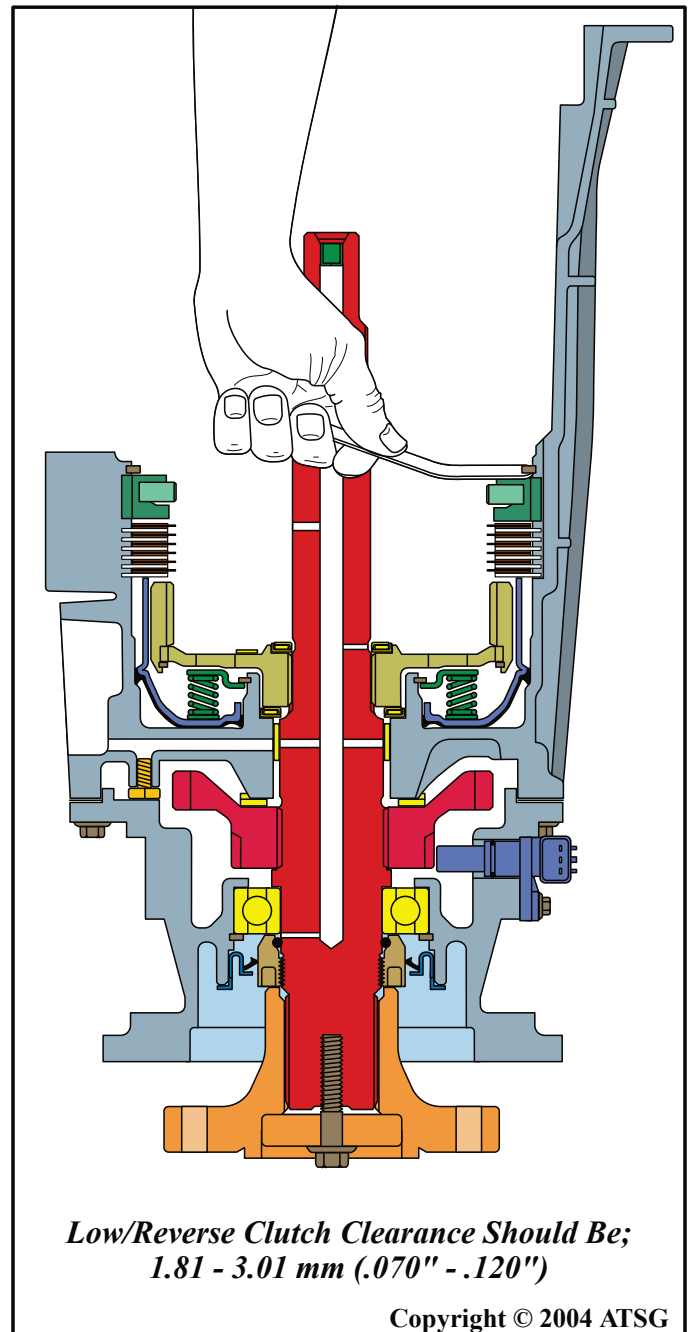

Figure 165
3. Check the low/reverse clutch clearance using a feeler gauge, as shown in Figure 165.